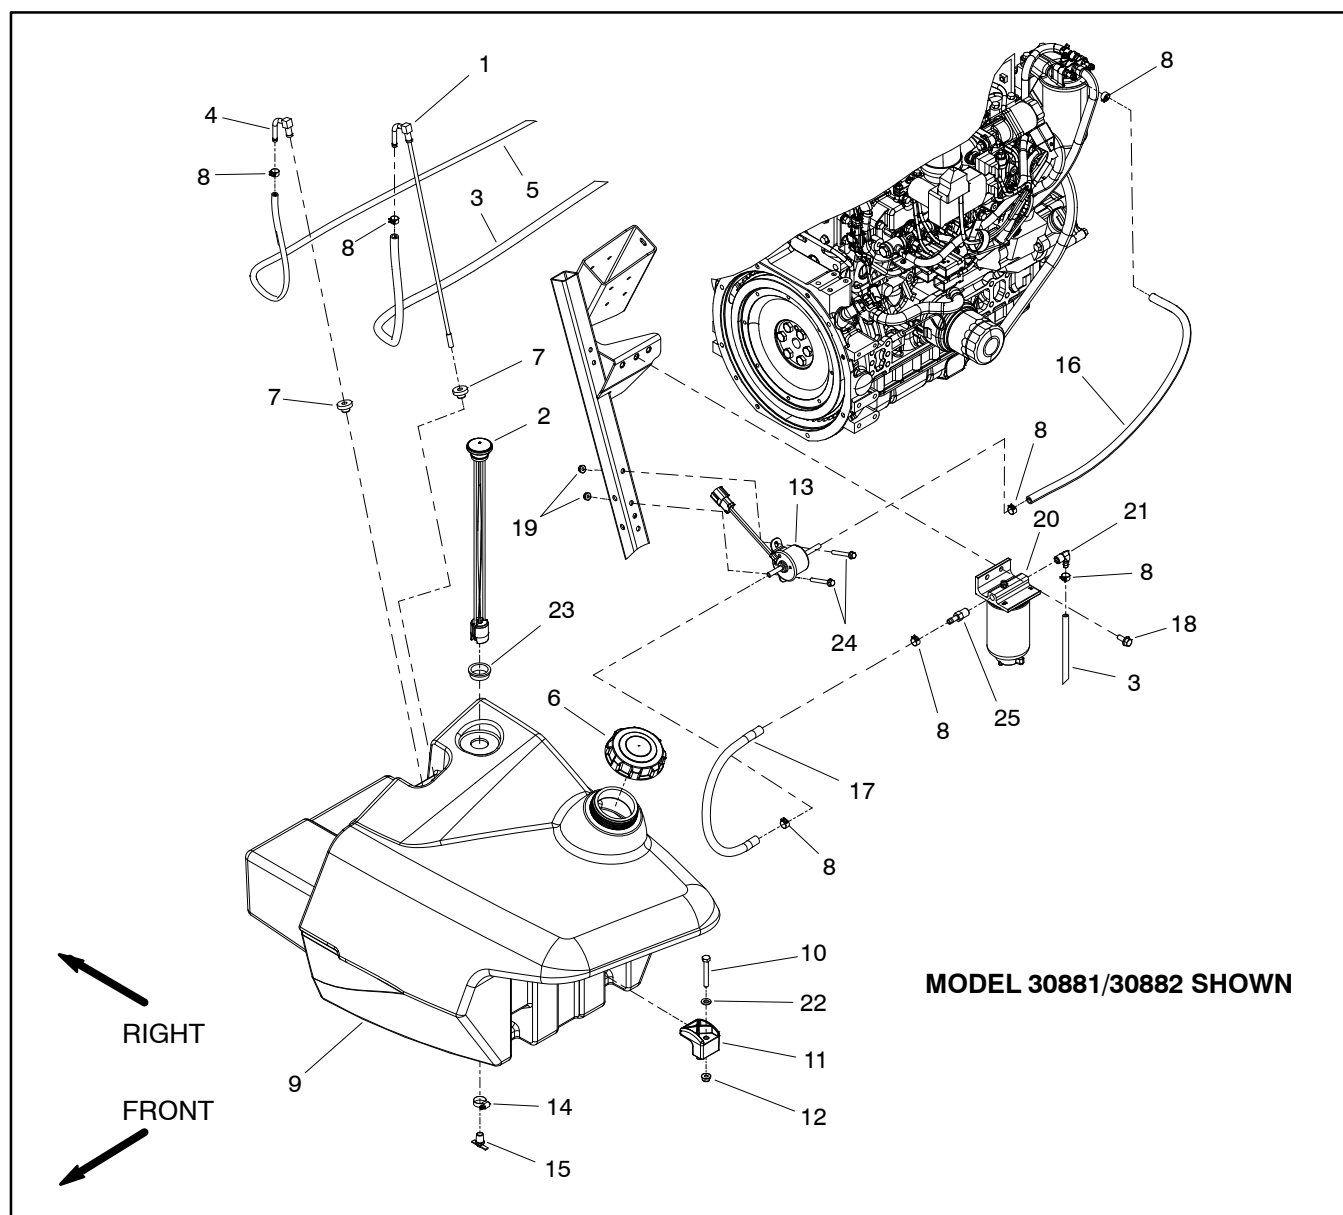

Figure 8
### Fuel Tank Removal (Fig. 8)
4. Remove fuel tank using Figure 8 as a guide.
### Fuel Tank Installation (Fig. 8)
1. Install fuel tank to frame using Figure 8 as a guide. If draincock (item 15) was removed from tank, apply thread sealant to threads of draincock before installing it into fuel tank.